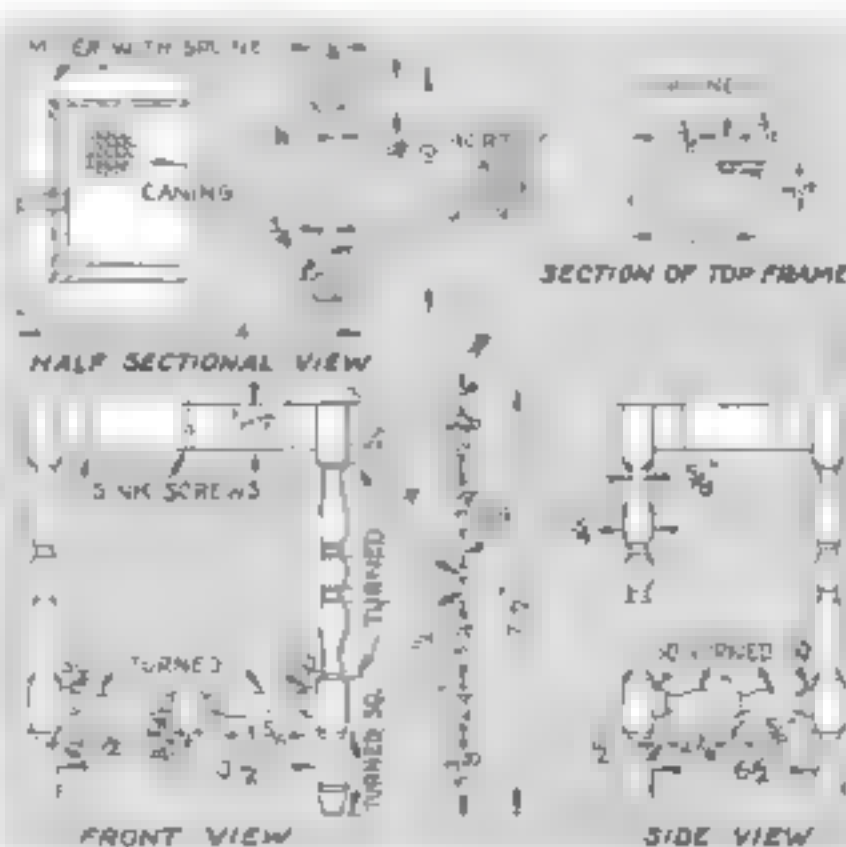

Fig. 4. Assembly views of the telephone stool and a cross section of the top frame showing how the caning is held in place with a spline.
**Step No. 4—Turning.** Carefully turn the legs and stretchers to the design shown in Fig. 4 and sandpaper while the stock is in the lathe.